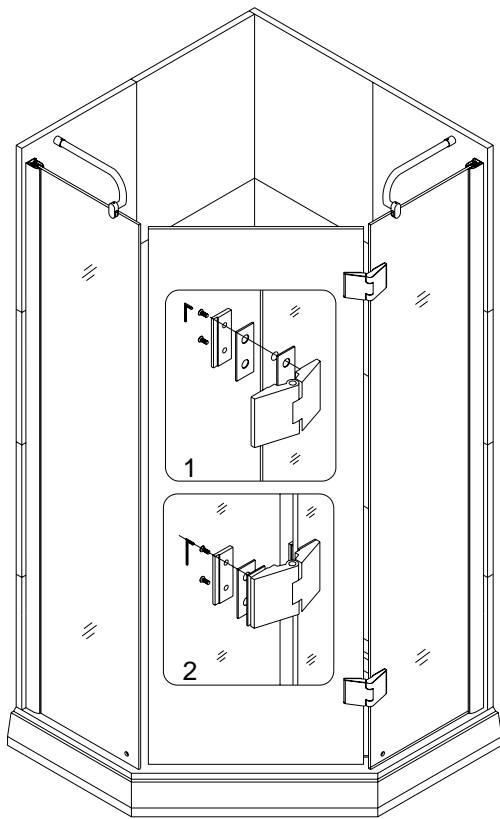

Fig 5
5. Install the **Hinges (07)** with the decorative non-screw side facing outwards onto the hinged stationary glass panel and the glass door. Hook the **Glass Door (05)** from the inside. You will need assistance in this process. Start off by attaching the hinges to the stationary glass. Place the hinge from the outside and screw it in from the inside, do this for the bottom hinge and the top hinge, but start first from the top hinge when you begin to hang the door on. Make sure that until both hinges are installed securely, the door does not swing around or lean/bend to any side because this can cause the hinge to snap and breakage of the glass. After the hinges are installed open and close the door to make sure it's operation is nice and smooth. Perform necessary adjustment to have the top edge of the door aligned with the stationary glass. See Fig.5 for details.